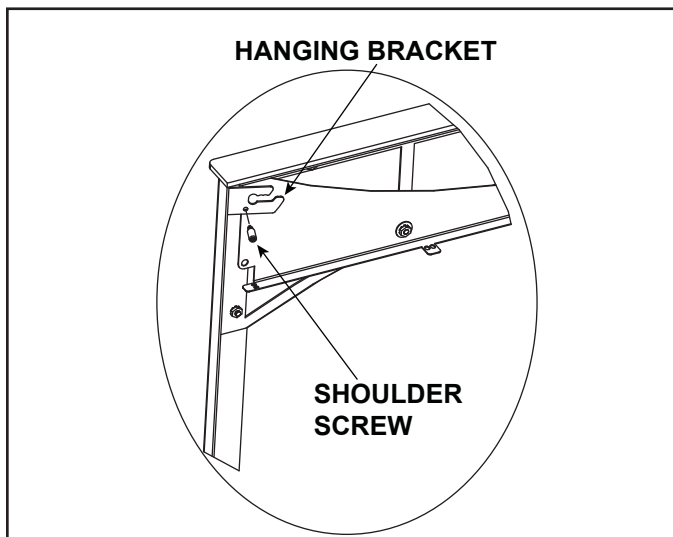

Figure 5. Install Shoulder Screws into Hanging Bracket
- Locate the two shoulder screws that are factory-installed on the door hanging brackets and remove them. Retain shoulder screws for later use. See Figure 5.